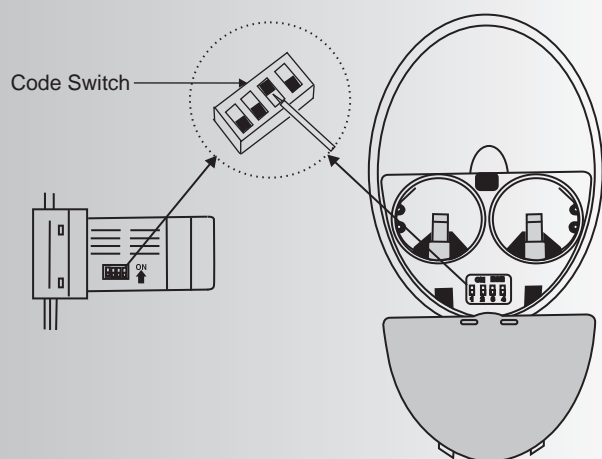

Fig. 15
**NOTE:** The CoolTouch™ Control System is equipped with 16 possible frequency combinations to prevent interference from or with other remote control units. The frequency switches on your receiver and transmitter have been preset at the factory. Please recheck to make sure the switches on transmitter and receiver are set to the same position, any combination of settings will operate the fan as long as the transmitter and receiver are set to the same position. (Fig. 15)